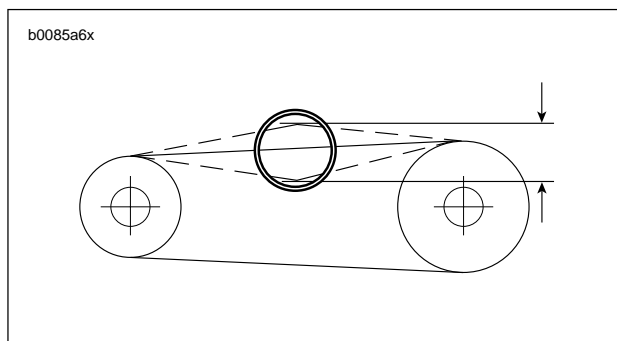

Figure 1-27. Measuring Primary Chain Free Play
2. See Figure 1-27. Check primary chain tension by measuring vertical free play.